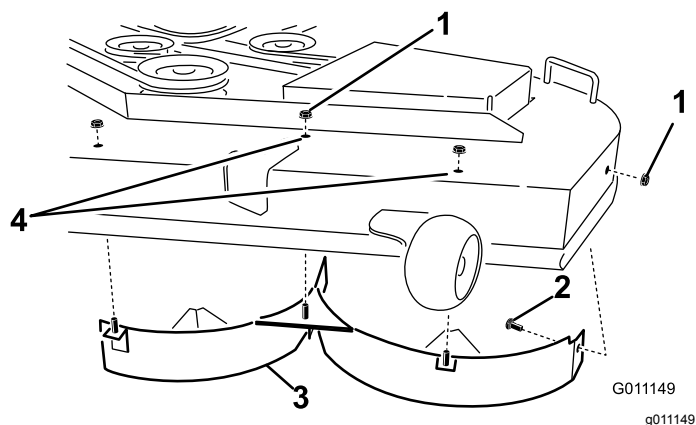

Figure 16
4. Remove the 3 locknuts (5/16 inch) secured to the welded posts of the left baffle on the top of the mower deck at the center, left of center, and left positions (Figure 16).
5. Remove the carriage bolt and locknut on the side wall of the mower deck securing the left baffle to the deck (Figure 16).
6. Remove the left baffle from the mower deck (Figure 16).
7. Locate the 2 bolts in loose parts and use the existing locknuts and install these fasteners into the holes shown in Figure 16 on the mower deck to prevent flying debris.